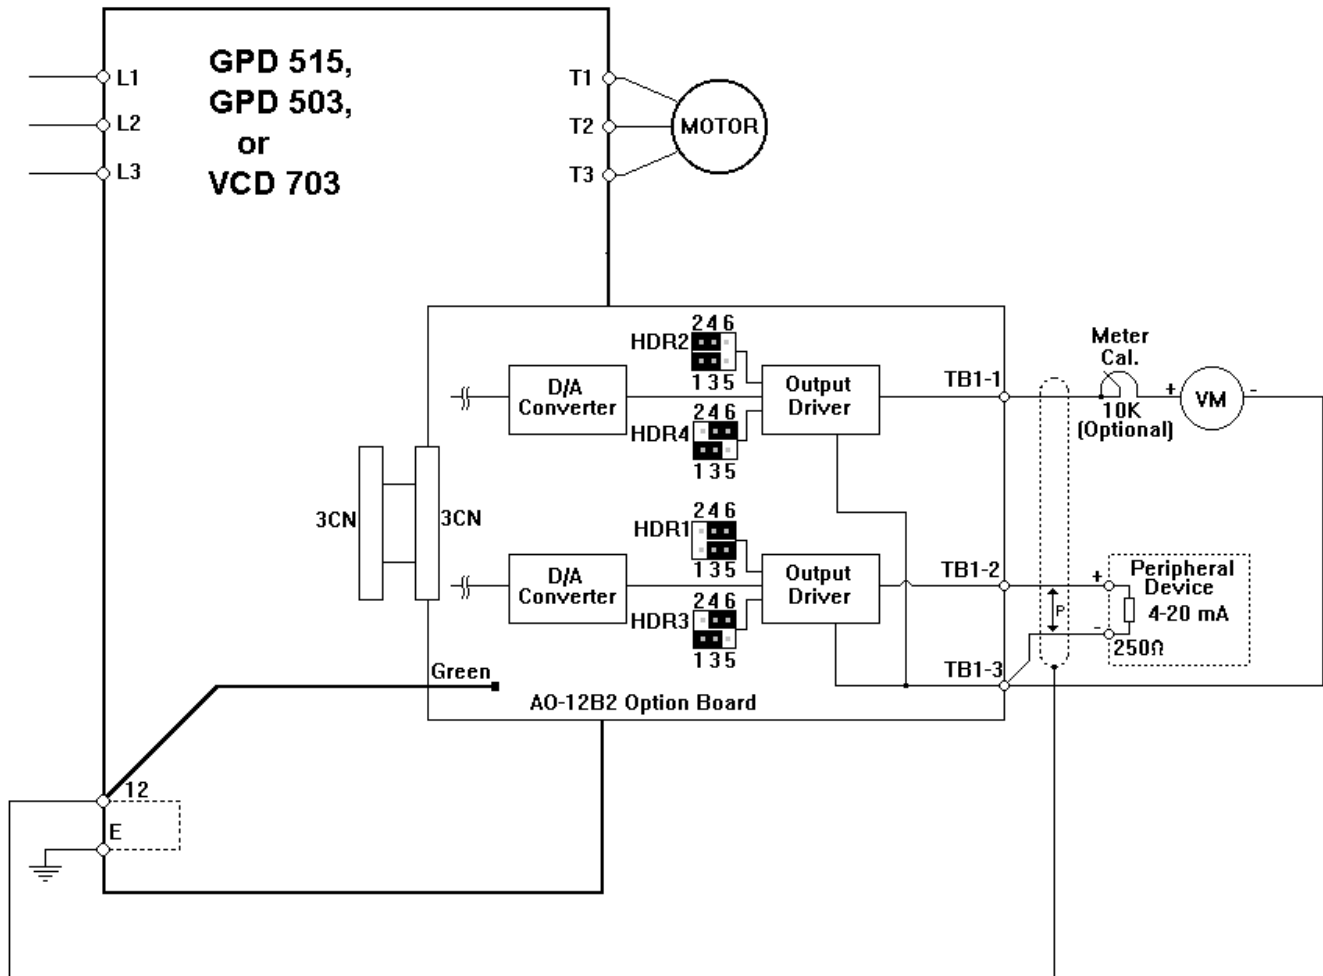

Figure 3. Interconnection for Analog Monitor (AO-12B2) Circuit
6. Wiring. See Figure 3 for Isolated Analog Monitor connections. See Table 2 for terminal functions.